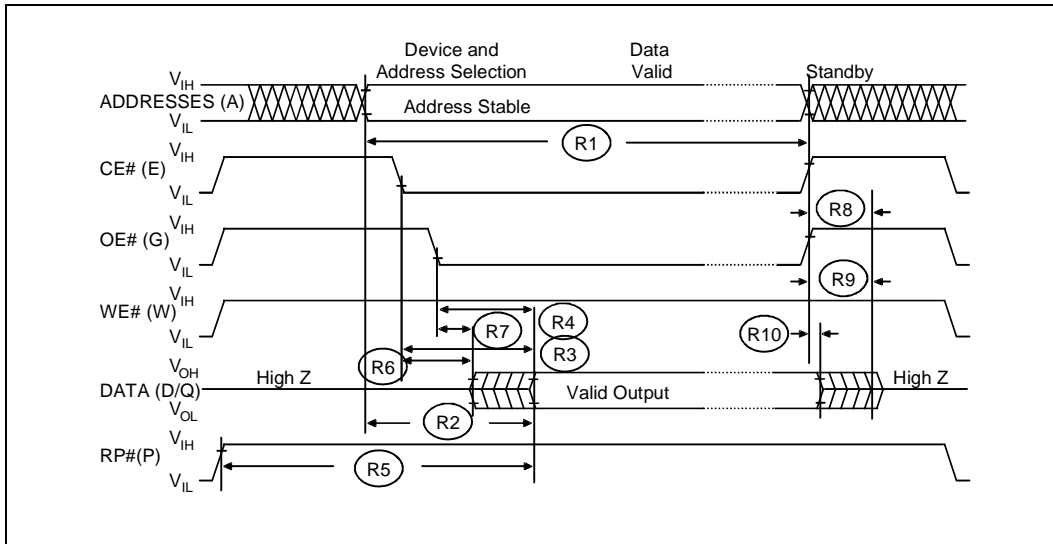

Figure 6. AC Waveform: Flash Read Operations
1. See Figure 6 *AC Waveform: Flash Read Operations*.
1. See Figure 6 AC Waveform: Flash Read Operations.